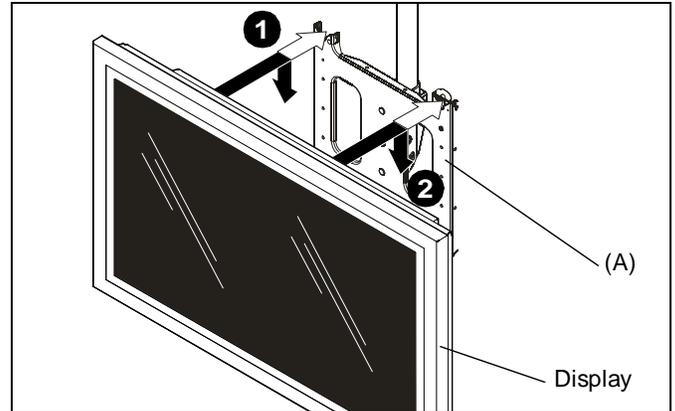

Figure 2
1. While supporting both sides of display, align four mounting buttons on interface bracket with four mounting holes in mount. (See Figures 2, 3 and 4)
2. Lower display into place listening for audible "click" to ensure recessed area of mounting buttons are properly seated in lower area of mounting holes and ClickConnect mechanism has engaged. (See Fig. 2, 3 and 4)